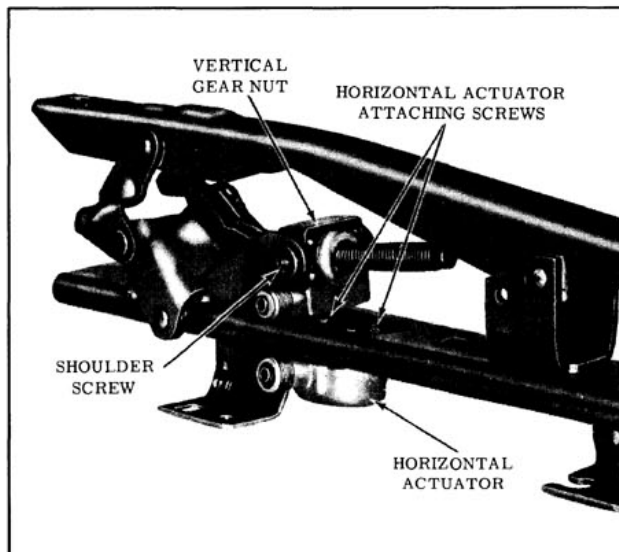

Fig. 16-93 Four-Way Tilt Seat Adjuster
4. Using a clutch-type screwdriver, remove shoulder screws securing linkage to vertical gearnut. (Fig. 16-93)
assembly to adjuster lower track; then remove actuator from adjuster assembly. (Fig. 16-93)